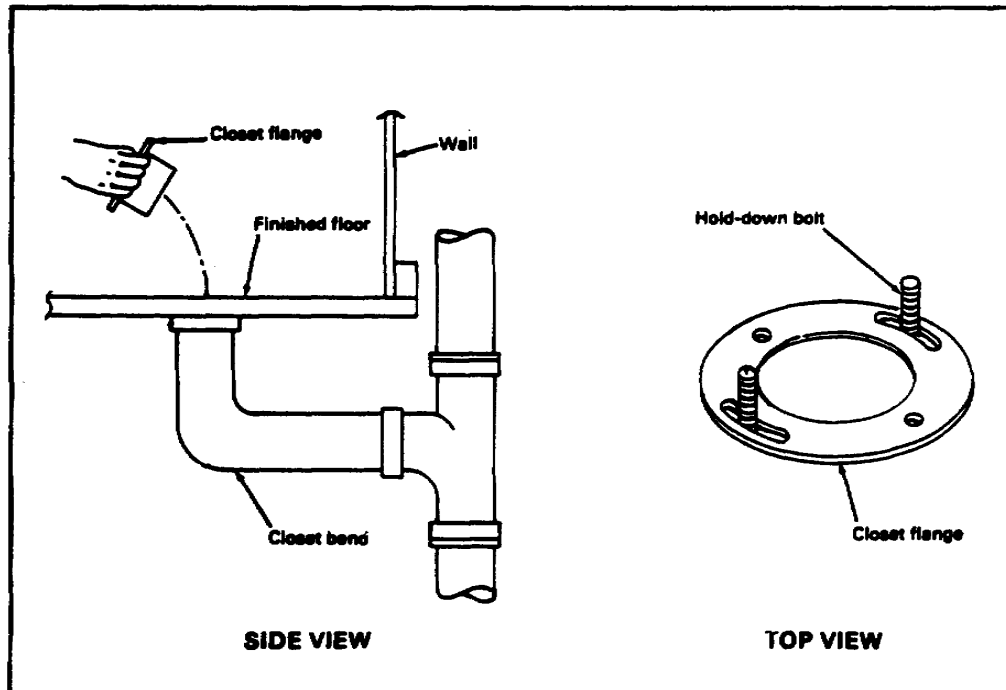

FIGURE 20. INSTALLING A CLOSET FLANGE
**Installing a closet flange.** Use the following steps to install a closet flange (see Figure 20):